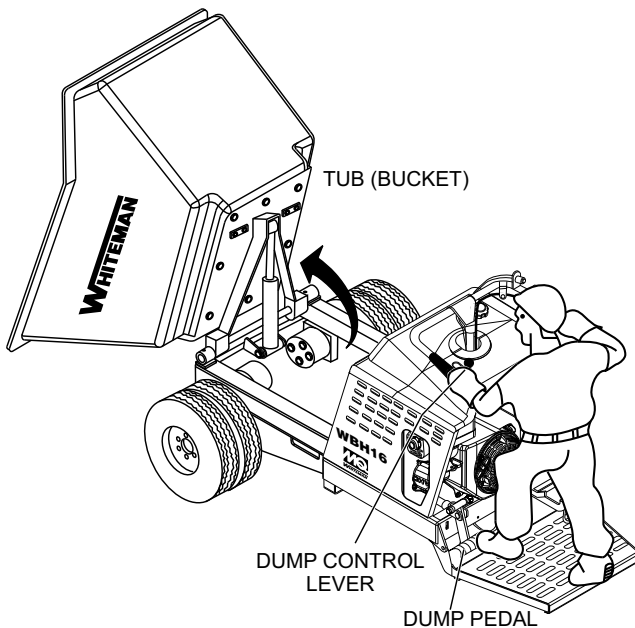

Figure 26. Tub Vertical Position
1. To place the tub in the vertical position (Figure 26) press down on the dump pedal or move the dump control lever forward. The tub will move to the vertical position as long as pressure is continuously applied to the dump pedal or the dump control lever is held in the forward position.